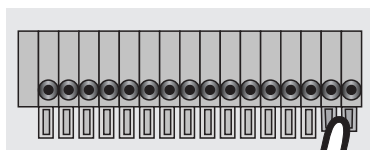

Figure 1
- 1.press the corresponding button on the end. (Figure 1)